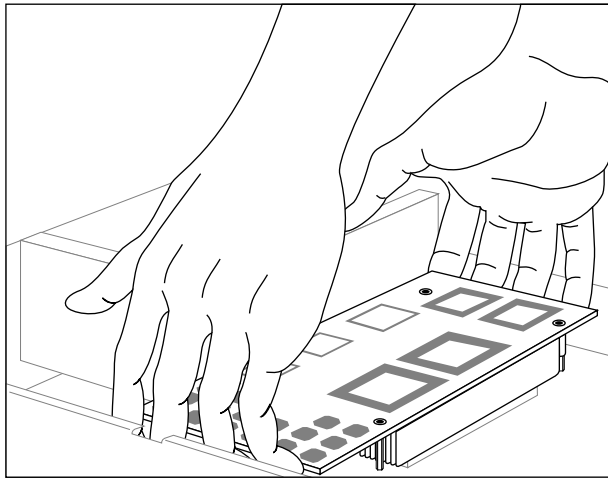

Figure 2-18 R8000 CPU Module Lowered Into Place
7. When both hands are in position, lower the module onto the standoffs, as shown in Figure 2-18. This hand position is the best to use for raising and lowering the CPU module, as it places the minimum stress on the flex cable.